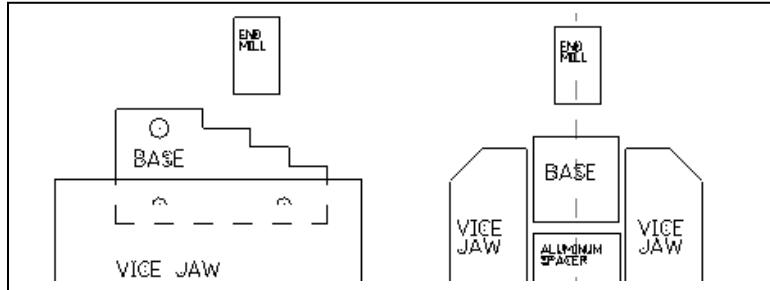

Figure 44: First Milling Setup for the Cannon Base.
1. When drilling, put an aluminum or plywood spacer block under the base to prevent drilling into the vice or the drill press table. (See Figure 44).